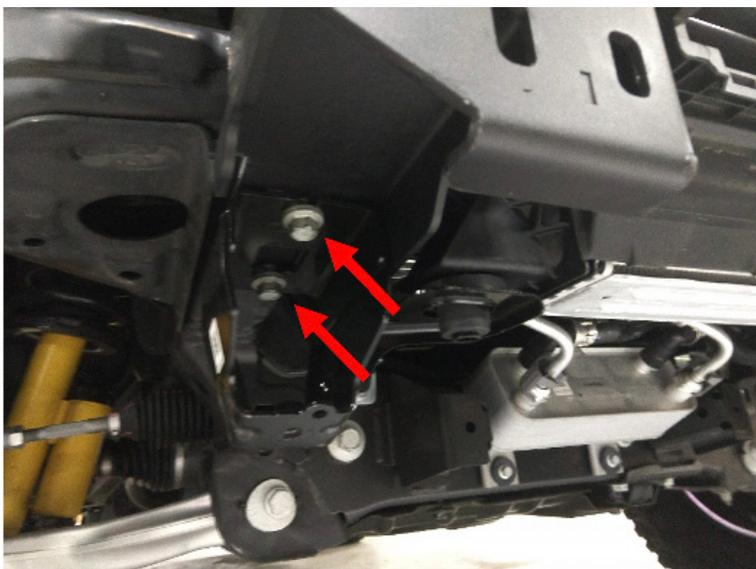

Figure 13
3. Position the frame stiffener so that the three slots at the top of the bracket align with the cutouts in the frame horn. Using a 15mm socket wrench tighten the previously installed bolt in the frame horn and two skid plate bracket bolts. (Figure 13)